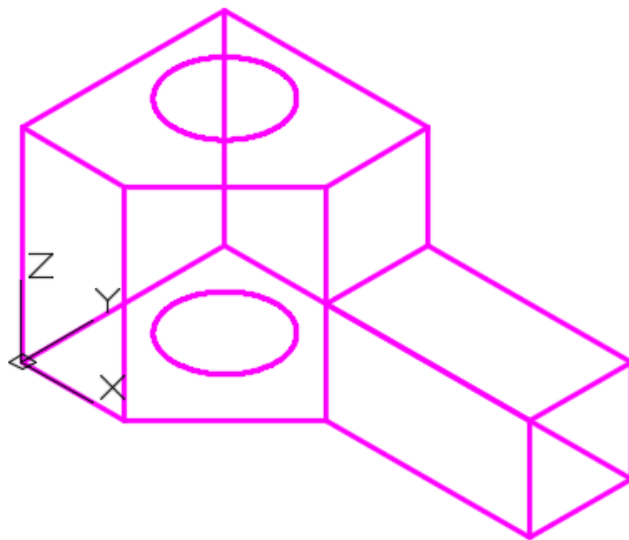

Figure Step 16
Step 16 Enter the UNITS command. In the Units dialogue box, set the Insertion Units to Inches. Insert the key: AutoCAD 3D Workalong 03-1. It will overlay the model with a magenta model. (Figure Step 16)